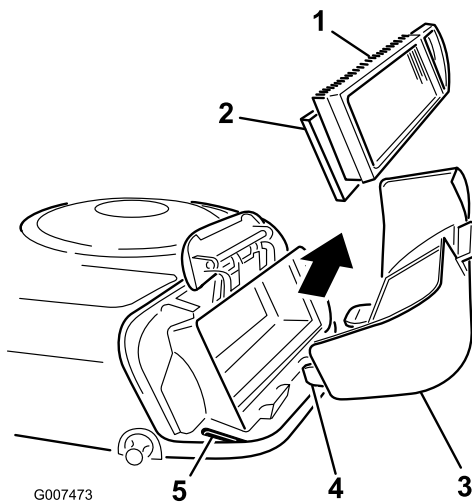

Figure 24
5. Carefully slide the paper element and foam element from the blower housing (Figure 24).
2. Align the tabs on the air cleaner cover with the slots of the blower housing (Figure 24).